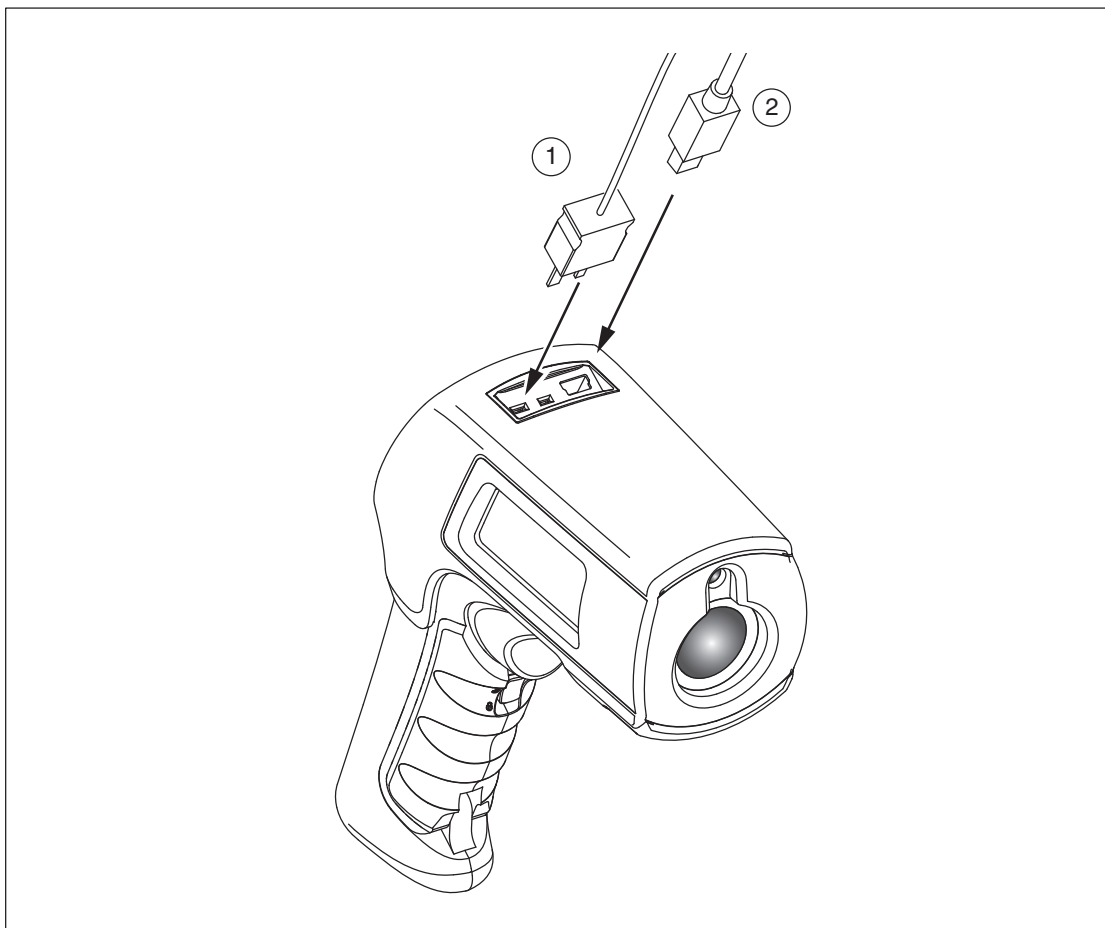

Figure 9. Thermocouple and USB Connections
The stored data of the 568 can be downloaded to a personal computer (PC) via the included USB cable and the included FlukeView® Forms Documenting Software. See the FlukeView® Forms documentation for details. The USB input ② is located on the top of the thermometer next to the external probe input ① (see Figure 9).
The thermometers come with a bead K-type thermocouple probe. The probes attach to the thermometers via the probe input located on the top of the thermometer (see Figure 9).